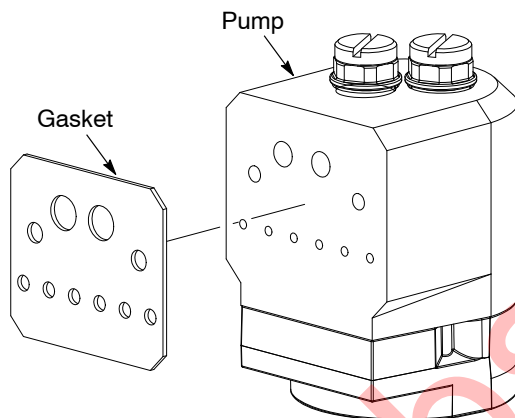

Figure 8 Replacing Pump Gasket
1. See Figure 8. Remove old pump gasket from the pump.